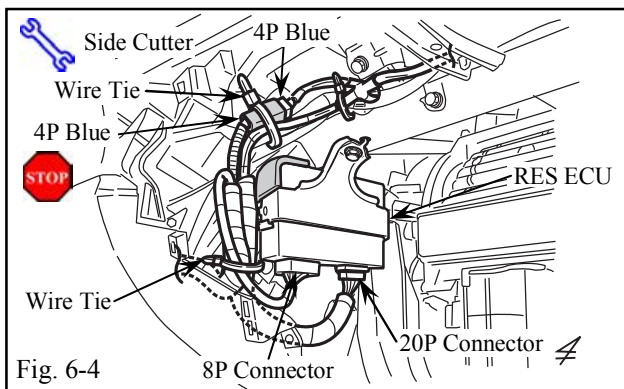

Fig. 6-4
- (d) Connect the V4 Harness' White 8P and 20P Connectors to the RES ECU. (Fig. 6-4)
- (e) Using 1 Wire Tie to secure the V4 Harness to the Vehicle Harness as shown. (Fig. 6-4)
- (1) Verify that there is no tension on the V4 Harness' 8P Connector.
- (f) Using 1 Wire Tie to secure the Blue 4P Connector to the V4 Harness. (Fig. 6-4)
- (g) Route the V4 Harness toward the right side of the Glove Box. (Fig. 6-4)